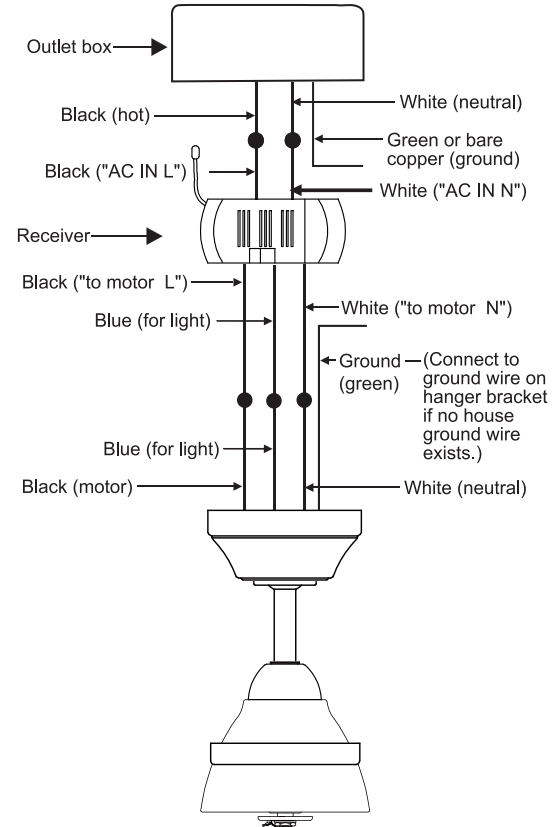

Fig. 15
Step 2. Motor to Receiver Electrical Connections: (Fig.15) Connect the black wire from the fan to the black wire marked "TO MOTOR L" on the receiver. Connect the white wire from the fan to the white wire marked "TO MOTOR N" on the receiver. Connect the blue wire from the fan to the blue wire marked "FOR LIGHT" on the receiver. Secure all the wire connections with the plastic wire nuts provided.
Step 3. (Fig.15) Receiver to House Supply Wires Electrical Connections: Connect the black (hot) wire from the ceiling to the black wire marked "AC in L" from the receiver. Connect the white (neutral) wire from the ceiling to the white wire marked "AC in N" from the Receiver. Secure the wire connections with the plastic wire nuts provided.
Step 4.(Fig.15) If your outlet box has a ground wire (green or bare copper) connect it to the fan ground wires; otherwise connect the hanging bracket ground wire to the mounting bracket. Secure the wire connection with a plastic nut provided. After connecting the wires, spread them apart so that the green and white wires are on one side of the outlet box and black and blue wires are on the other side. Carefully tuck the wire connections up into the outlet box.